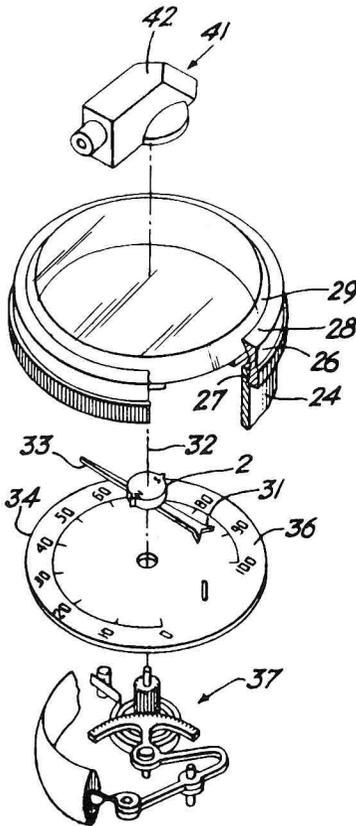

Figure 1.
As with most patent descriptions, Wright's invention is covered in very broad terms. The particular device cited in the patent, however, is quite simple and is shown in Fig.1. This is an exploded view of a pressure gauge which has a drive mechanism (37), dial face (36), pointer (31, 33), and knob (41, 42). On the center of the pointer is a small permanent magnet (2).